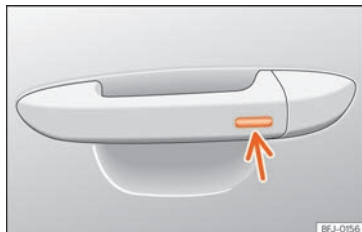

**Fig. 113** Door handle: sensor surface.
- Press and hold the locking sensor surface » Fig. 113 (arrow) on the door handle to close the sunroof. If you release the sensor surface, the closing movement stops.